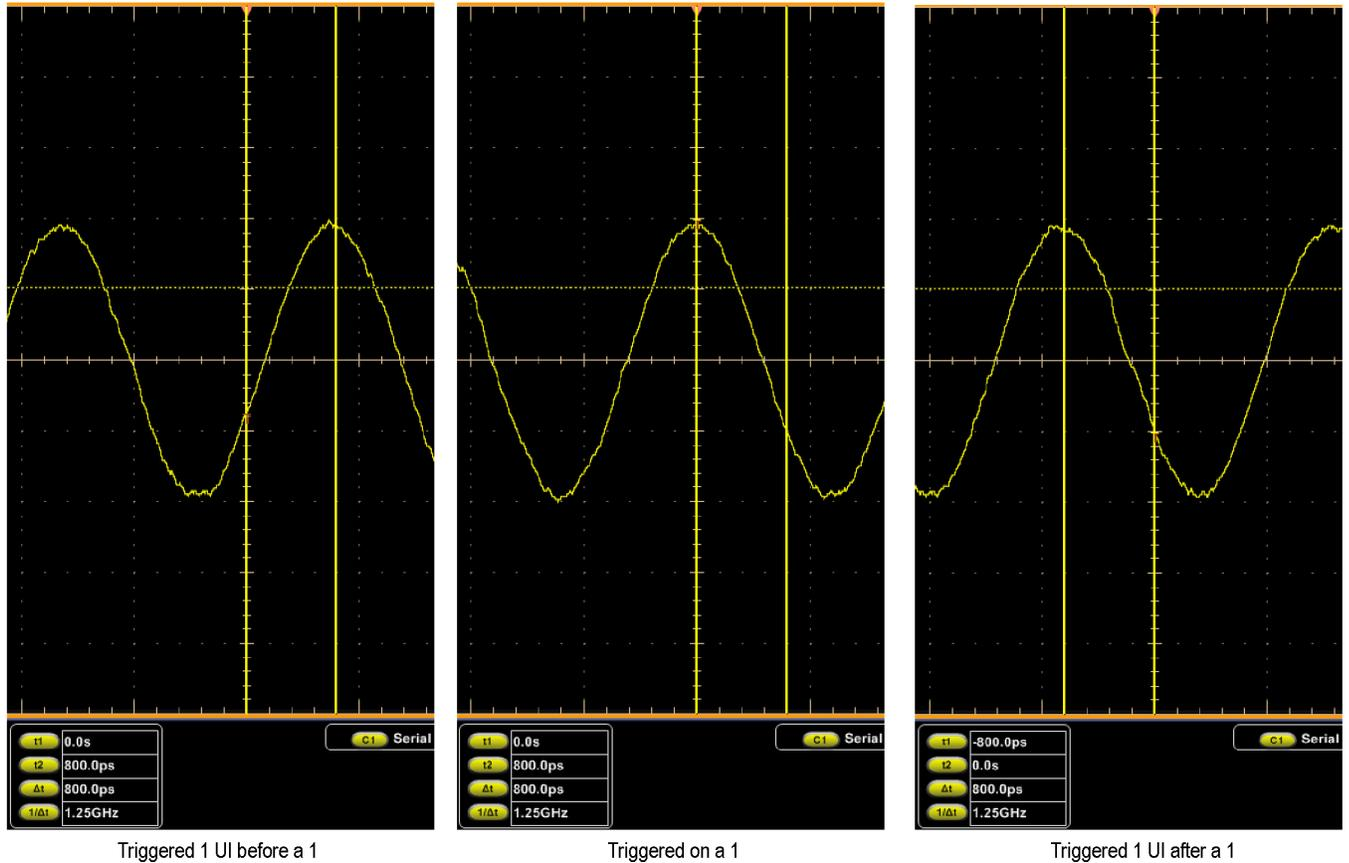

Figure 43: Isolated 1 triggering
- e. Center Cursor 2 in the high of the waveform just to the right of the center graticule line. (See Figure 43 on page 325.)
- f. Verify that the instrument triggers one Unit Interval (UI) before the 1 in the input signal. The absolute value of the T1 cursor readout must be  $\leq 325$  ps. Enter pass or fail in the test record.
- j. Center the Cursor 1 in the waveform high nearest the center graticule line. (See Figure 43 on page 325.)
- o. Center Cursor 1 in the high of the waveform just to the left of the center graticule line. (See Figure 43 on page 325.)
- p. Verify that the instrument triggers one Unit Interval (UI) after the 1 in the input signal. The absolute value of the T2 cursor readout must be  $\leq 325$  ps. Enter pass or fail in the test record.